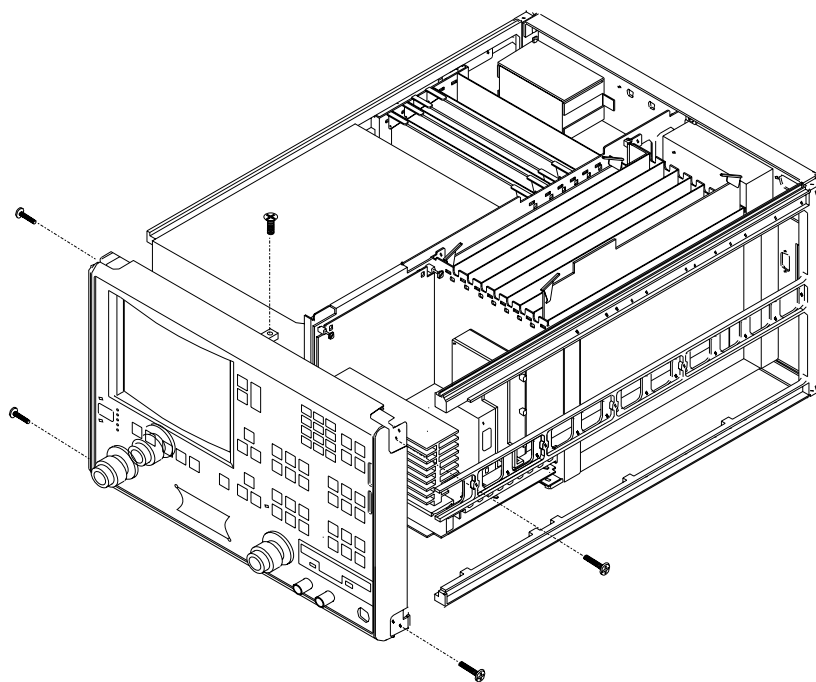

Figure 8-6. Removal of Front Panel Assembly
- Step 2. Remove the four corner screws and the top center screw that secure the front panel assembly to the chassis (see Figure 8-6).